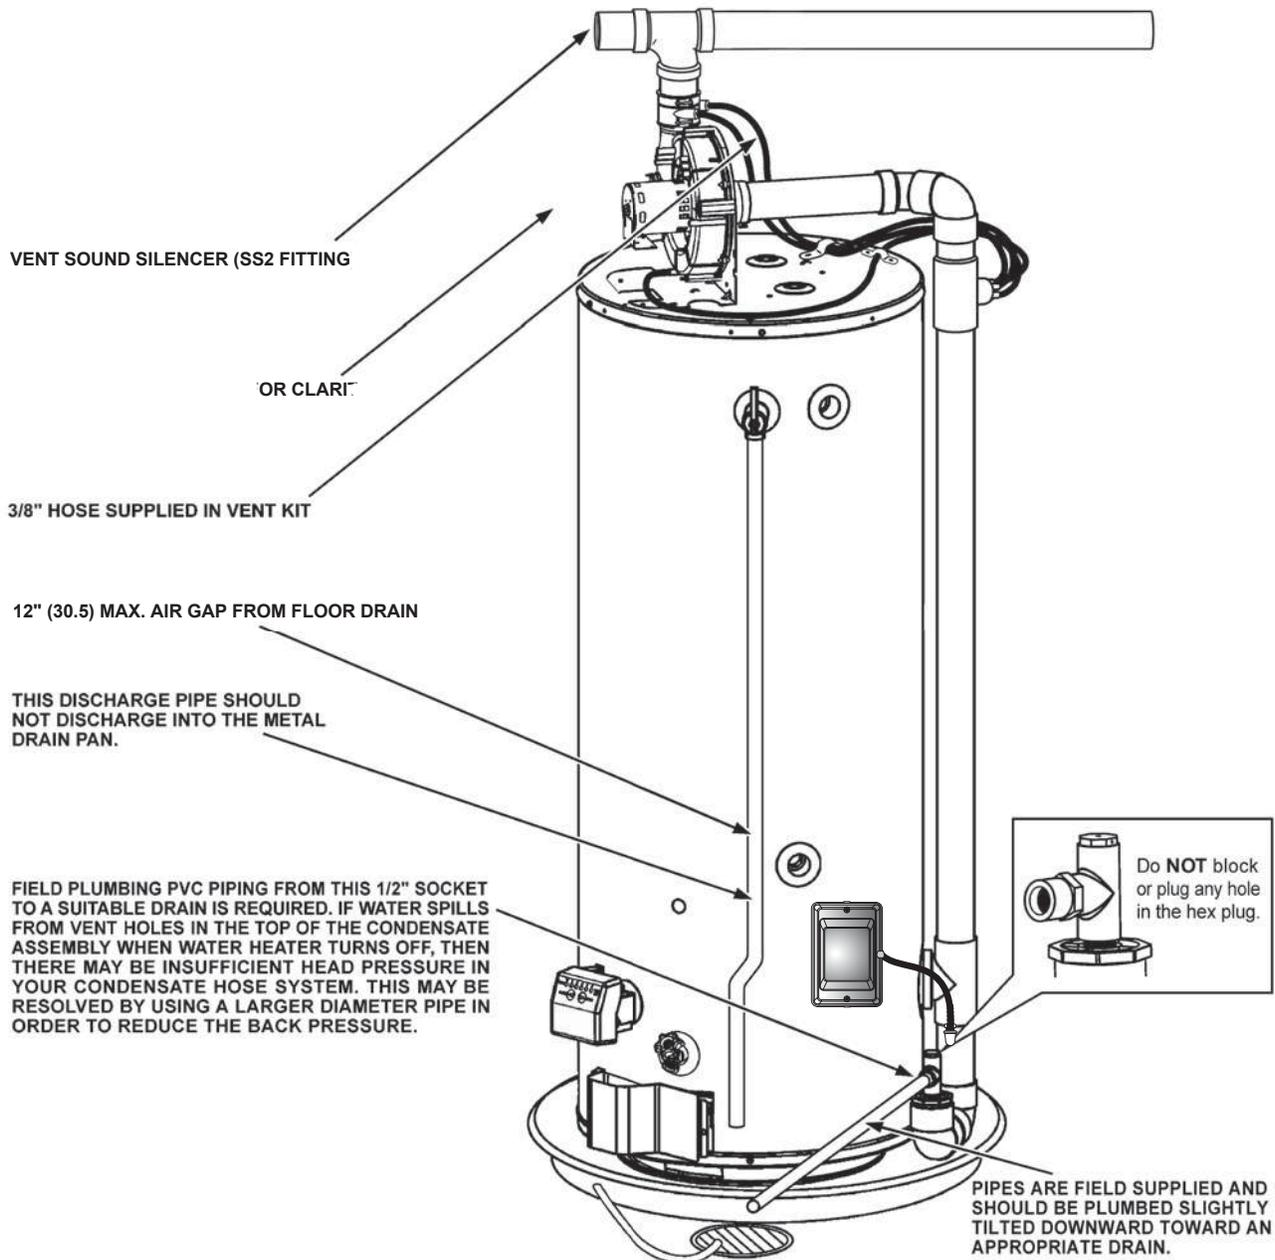

Figure 2. Features and Components - Left Side
5. Carefully plan the place where you are going to put the water heater. Correct combustion, vent action, and vent pipe installation are very important in preventing death from possible carbon monoxide poisoning and fires. See *Figure 1* (page 7), *Figure 2* (page 8), and *Figure 8* (page 13).
Installation of the water heater must be accomplished in such a manner that if the tank or any connections should leak, the flow will not cause damage to the structure. For this reason, it is not advisable to install the water heater in an attic or upper floor. When such locations cannot be avoided, a suitable drain pan should be installed under the water heater. Drain pans are available at your local hardware store. Such a drain pan must have a clearance of at least 1.0" (2.5 cm) greater than any point on the water heater's outer jacket and must be piped to an adequate drain. The pan must not restrict combustion air flow. For example, if a circular pan is used, it must be a minimum of 27" (69 cm) in diameter. See *Figure 1* (page 7) and *Figure 2* (page 8).